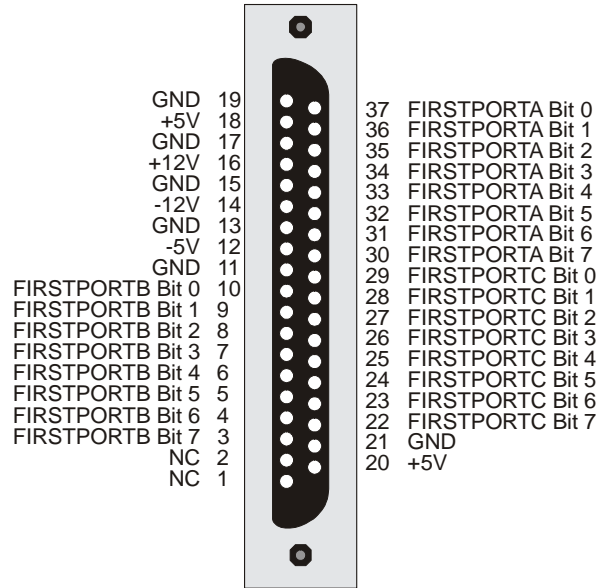

Figure 7. 37-pin digital connector
The digital connector (J2) is a 37-pin, type D connector that is mounted on the CIO-DAS08 board (see Figure 7). This connector is identical to the CIO-DIO24 connector, except that the Interrupt Input and Interrupt Enable pins are not provided. These are no-connect pins (NC) on the CIO-DAS08. The CIO-DAS08 has an interrupt input pin at pin 24 on the analog connector J1.